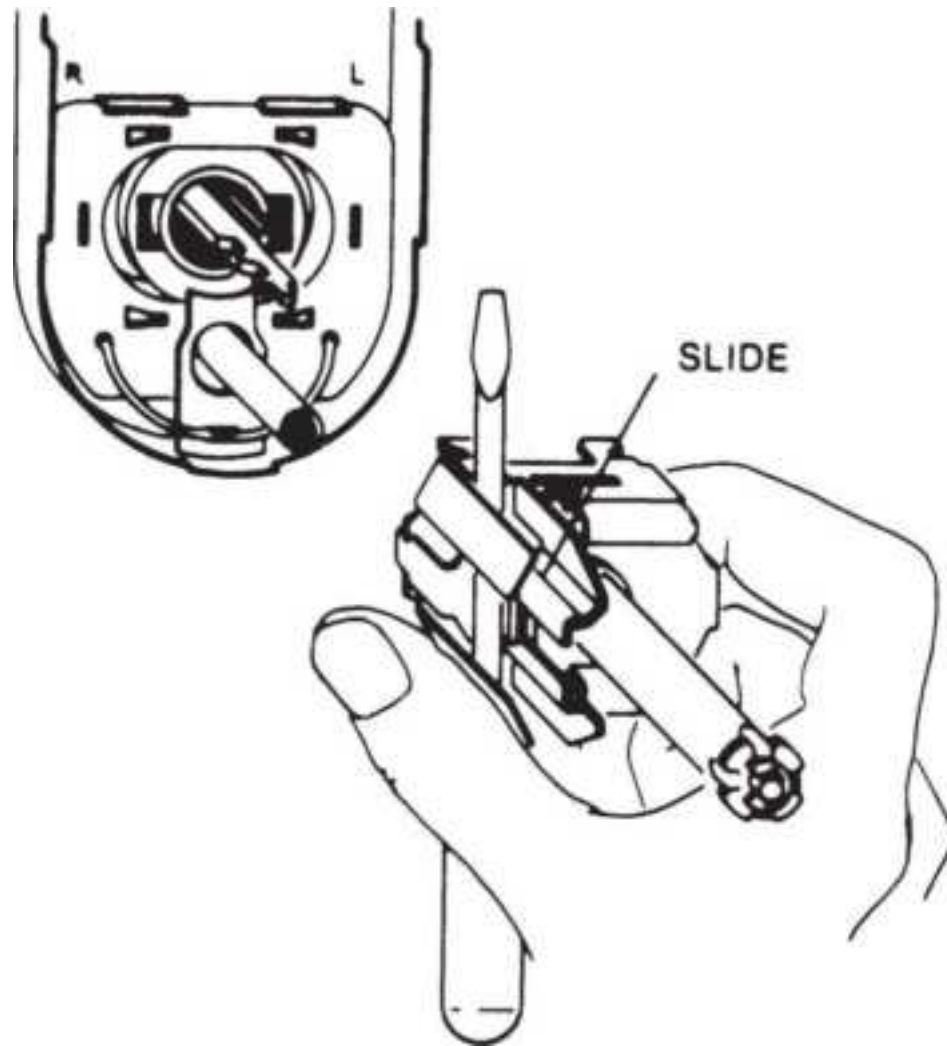

**Figure 13.74** Changing hand, Step 5.
5. Compress the slide with a screwdriver and pull the assembly out (Fig. 13.74 ).